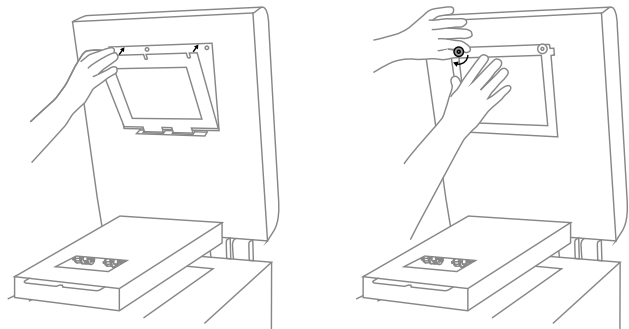

Fig. 13.53 Reinstall the laser protective glass and quick release nuts.
13. Insert the laser protective glass into mounting brackets and tighten the two quick release nuts (fig. 13.53).